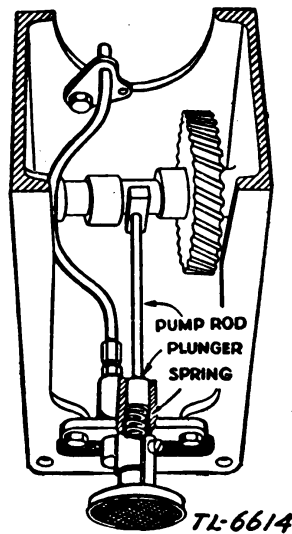

FIGURE 18. Oil pump.
f. Oil pump (fig. 18). The oil pump is attached to the crankcase with two bolts and lock washers, and is operated from an eccentric on the cam gear. A defective pump will lead to insufficient lubrication, which may result in scoring the cylinder and the piston assembly. To check the oil pump, remove the base and the two bolts that hold the pump in place. Place the pump in a pan containing oil about $\frac{1}{2}$ -inch deep. Work the plunger up and down. If the pump is in good operating condition, a stream of oil will be forced out of the hole in the pump plunger. If the pump is clogged, remove the plunger and plunger spring, and submerge the parts in gasoline or kerosene for 3 or 4 hours to loosen any accumulated sludge or gum. If the pump is still inoperative, replace it. In assembling, be sure that the spring and plunger are in place, as shown in figure 18.